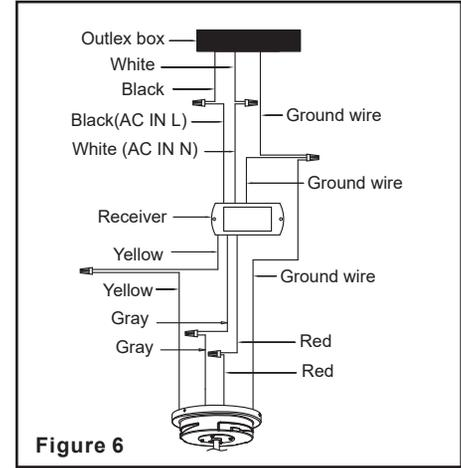

Figure 6
**Step 1.** Motor to receiver electrical connections: Connect the grey wire from the fan to the grey wire from the receiver. Connect the red wire from the fan to the red wire from the receiver. Connect the yellow wire from the fan to the yellow wire from the receiver. Secure the wire connections with the plastic wire connecting nuts provided (Figure 6).
**Step 2.** Receiver to house supply wires electrical connections: Connect the black (hot) wire from the ceiling to the black wire marked "AC in L" from the receiver. Connect the white (neutral) wire from the ceiling to the white wire marked "AC in N" from the receiver. Secure the wire connections with the plastic wire connecting nuts provided (Figure 6).
**Step 3.** If your outlet box has a ground wire (green or bare copper) connect it to the fan ground wires; otherwise connect the ceiling bracket assembly ground wire to the mounting bracket. Secure the wire connection with a plastic nut provided. After connecting the wires spread them apart so that the green and white wires are on one side of the outlet box and grey/red and yellow wires are on the other side. Carefully tuck the wire connections up into the outlet box (Figure 6).